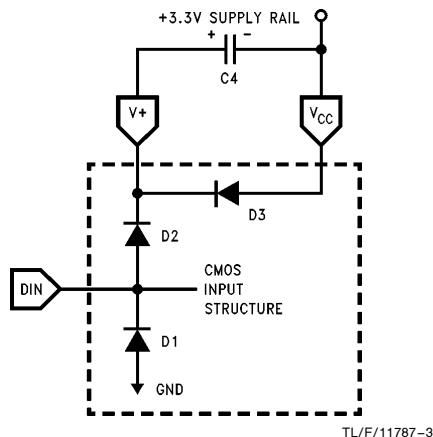

FIGURE 3. Input Protection Circuitry
Let us first examine the input structures of the D_{IN} and SD input pins, as these structures are very similar. The common circuitry is illustrated in Figure 3 and is composed of two input protection diodes (D1 and D2). In addition, a third diode (D3) exists between the V_{CC} and $V+$ pins and is normally reversed biased. Diode D1 is situated between the input (D_{IN} or SD) pin and GND to clamp negative input voltages. Diode D2 is situated between the input pin and the $V+$ pin. When the DS14C335 is active (ON), the $V+$ pin is typically greater than +9V. External charge pump capacitor C4, holds 6V of charge, and is referenced to the V_{CC} (+3.3V) pin. This creates a potential of greater than +9V on the $V+$ pin, and is used to power the driver outputs. The input pins (D_{IN} and SD) present standard input current loading to the driving device (UART) since D1 and D2 remain reversed biased between -0.3V and one diode above the $V+$ pin potential (typically greater than +9V).